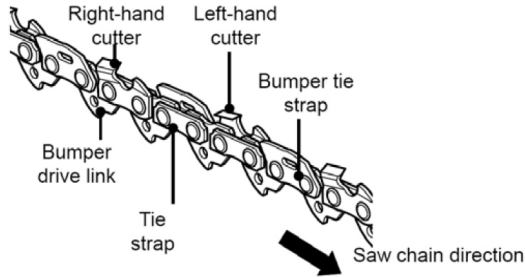

Fig. 37a
2. The height difference between the tooth and the ridge is the cutting depth. When sharpening the saw chain (D6) you have to consider the following points. (See Fig. 37a)